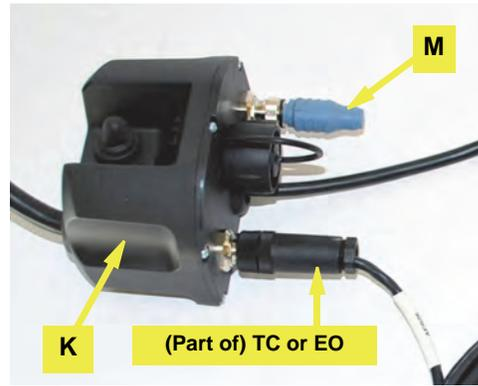

Figure 5d: CAN harness and terminator connected to junction box
e. Connect the threaded 5-pin connector on the CAN bus harness **TC** (eDriveTC) or **EO** (eDriveX) to either of the threaded connectors on the junction box **K**. Connect the CAN bus terminator **M** to the other threaded connector on the junction box (Figure 5d).